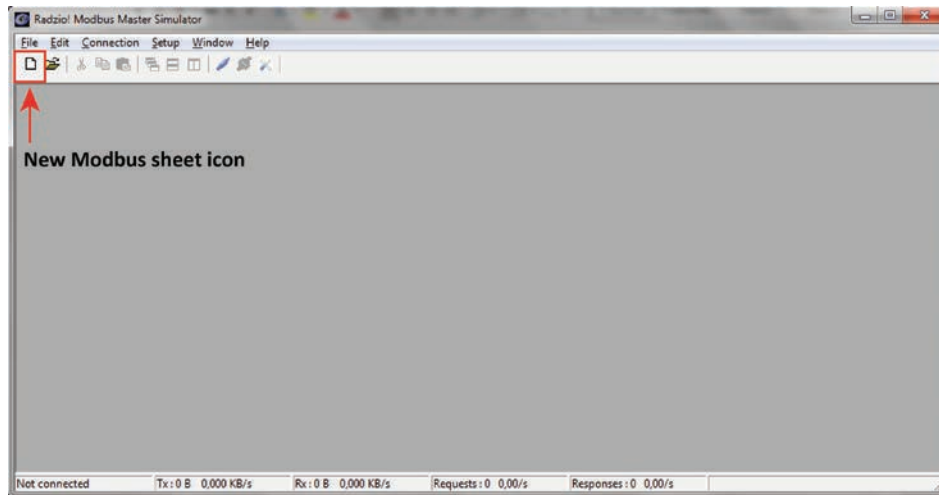

Fig 9: New Modbus sheet icon
10. Click **New Modbus sheet** icon, to open the new Modbus sheet. (Fig 9)